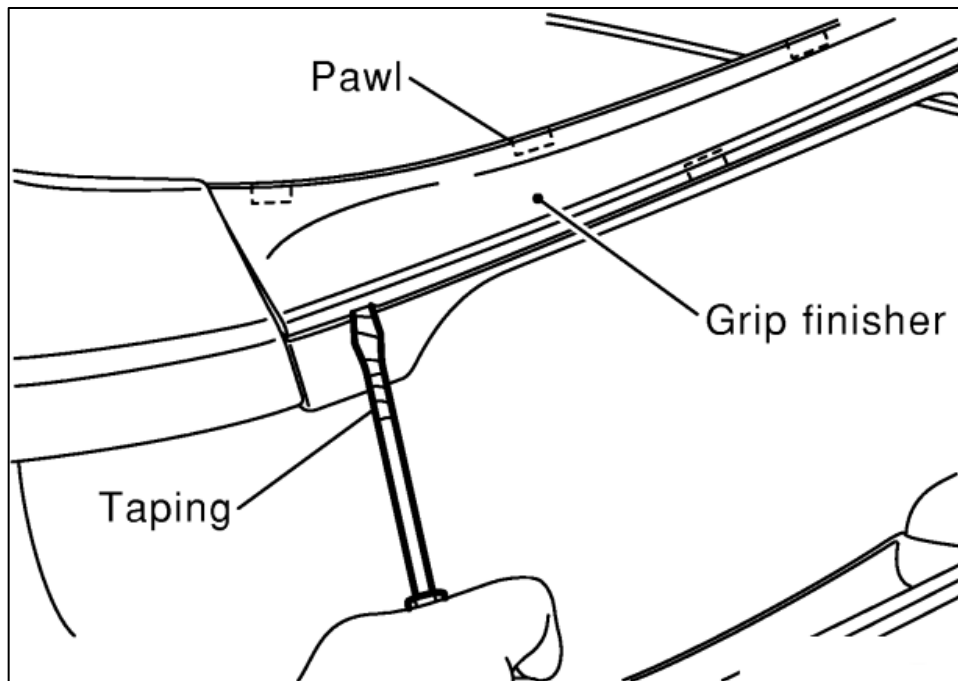

Figure 21
7. Remove the Handle Trim Piece with a Trim Removal tool. *Figure 21.*